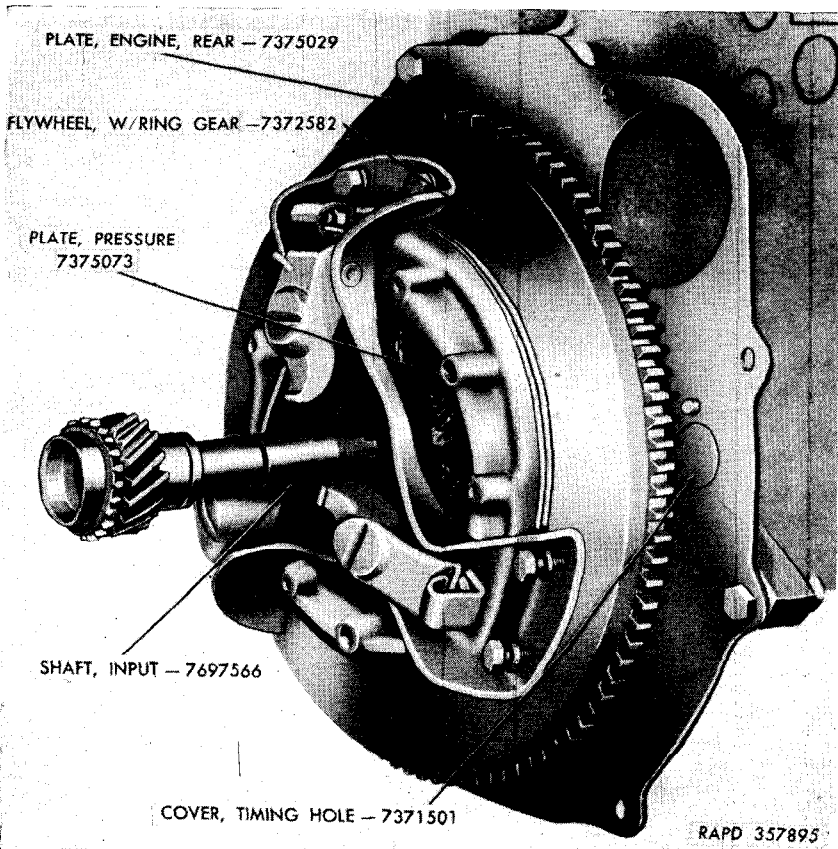

Figure 78. Installing clutch disk and pressure plate on flywheel.
86. Install Clutch Disk and Pressure Plate (fig. 78)